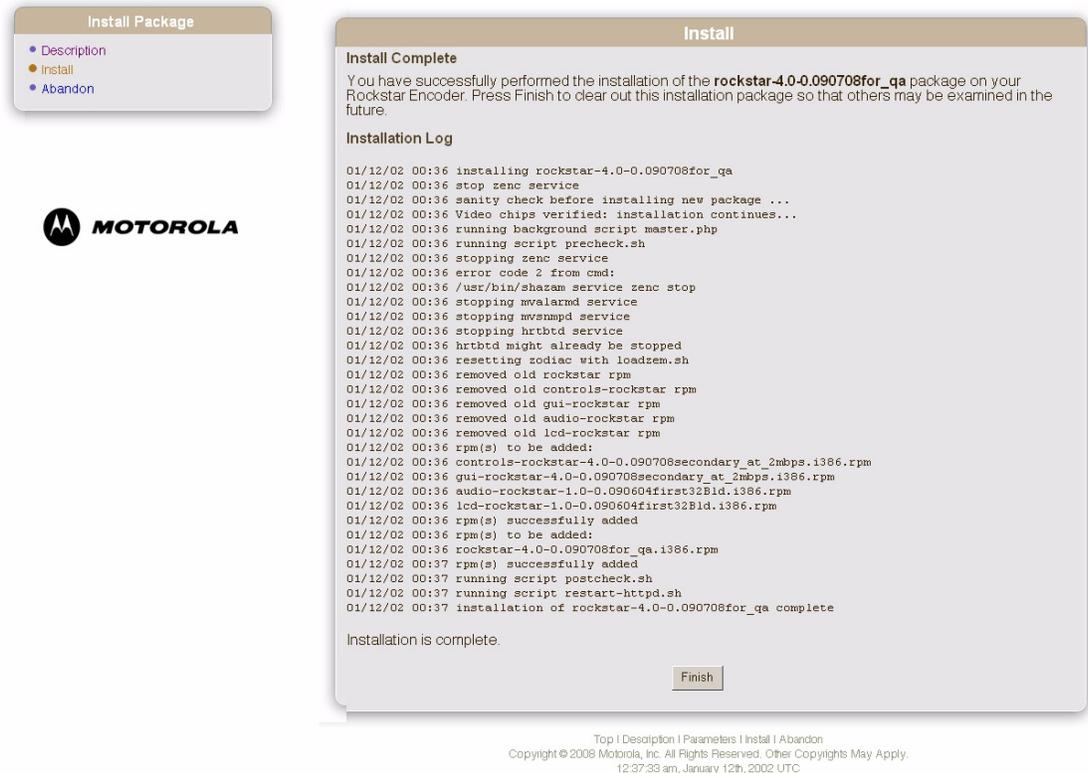

Figure 64: Installation Completed
8. At the conclusion of the procedure, click **Finish** on the final menu, as shown in Figure 64.